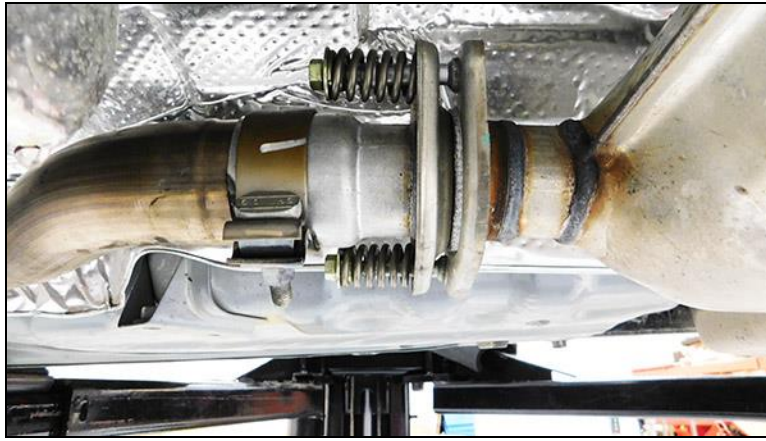

Figure 1
5. Remove the spring nuts from the studs connecting the resonator assembly to the catalyst down pipes (**Figure 1**).